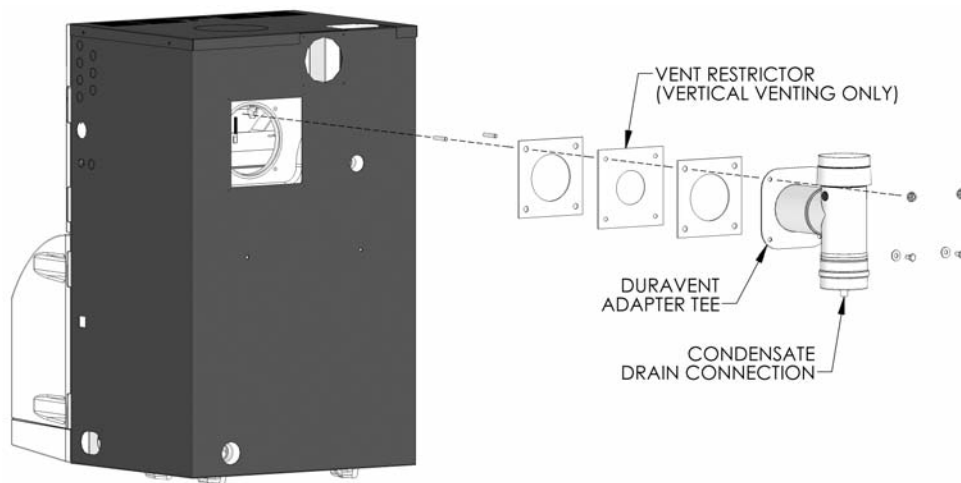

Figure 2.1: Condensate Drain Tee Installation
3. Figure 2.1 shows correct installation of the condensate drain tee.